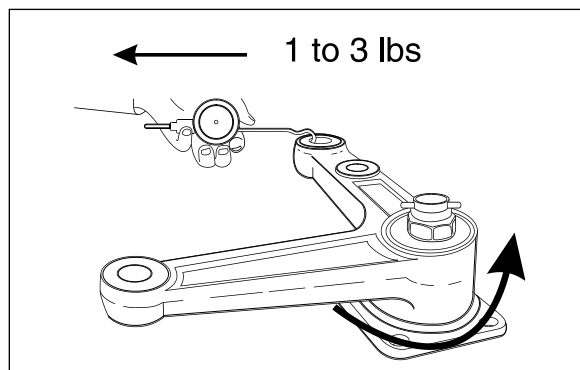

FIGURE 30: BELL CRANK
11. Unscrew nut until bell crank or idler arm starts to turn with the application of 1 to 3 lbs force load as shown on Figure 30.